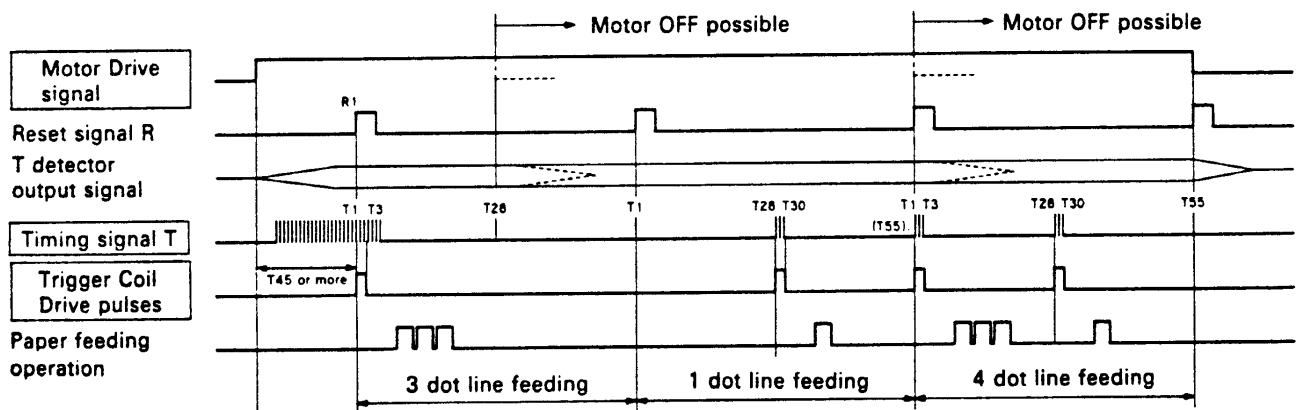

Fig. 1-27. Timing Chart of Paper Feeding (Model-260)
1. Paper Feeding (see Fig. 1-27)